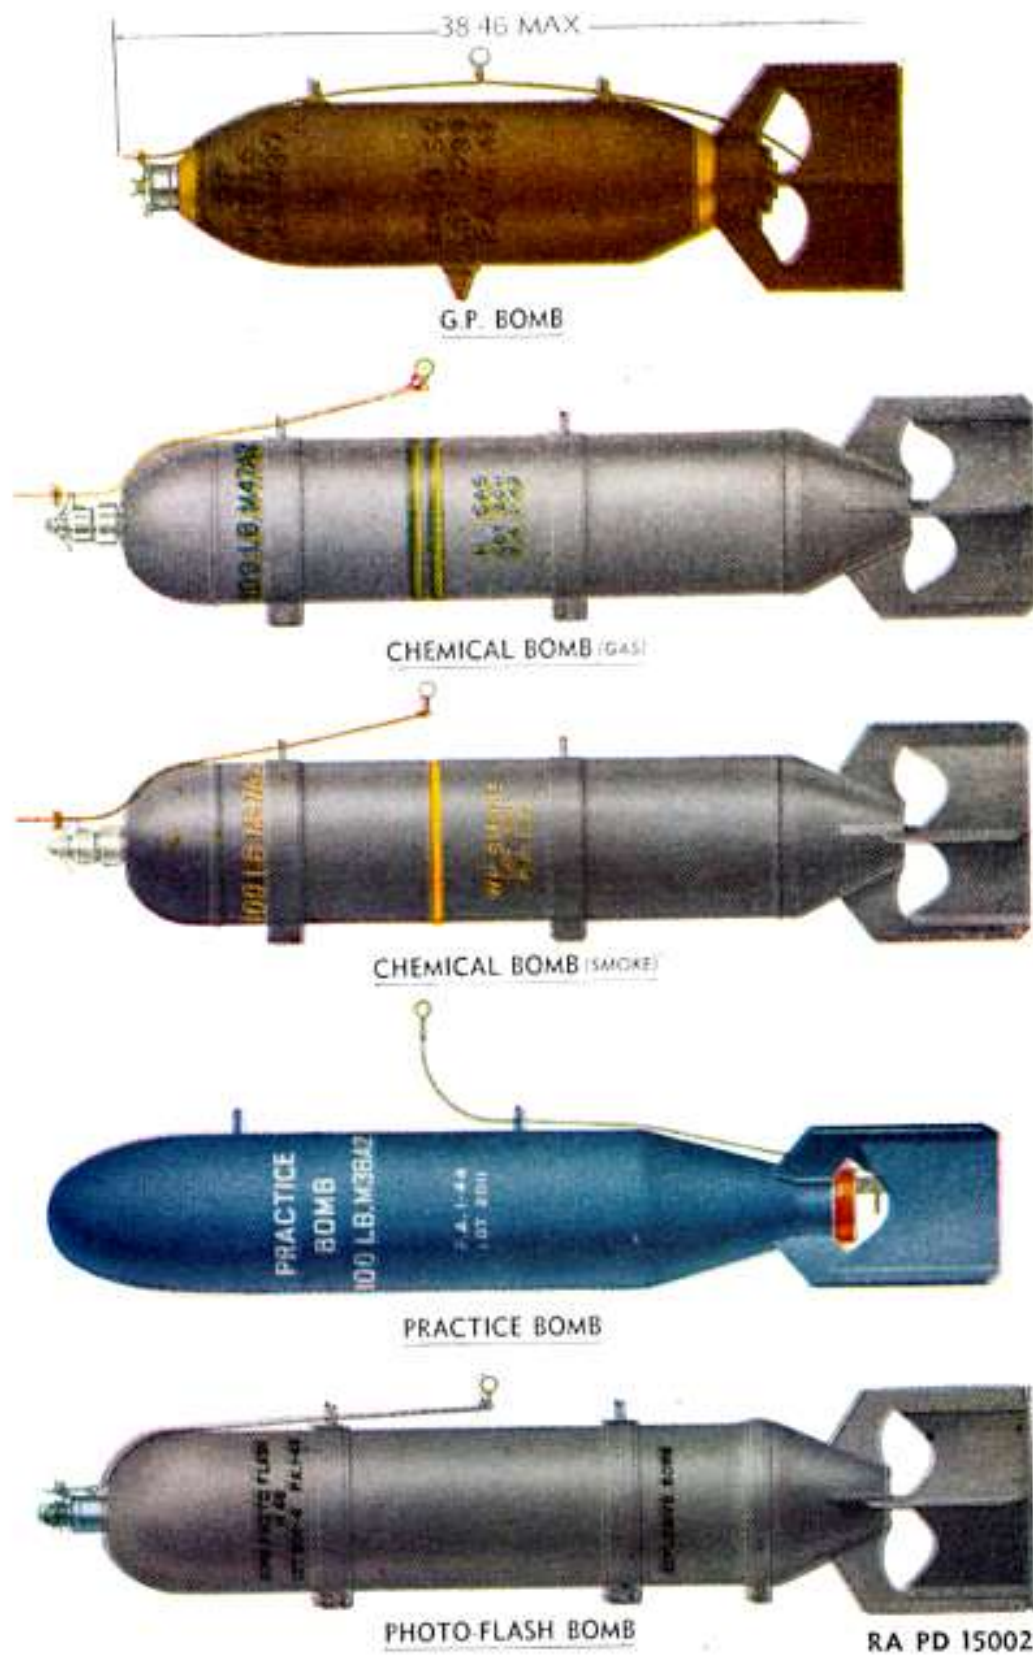

Figure 33. Painting and marking of bombs.
16. PAINTING AND MARKING. *a. Painting.* Ammunition is painted to prevent rust and to furnish, by the colors a ready means of identification as to type. In addition, bombs stored in the open are painted to prevent their ready detection from the air. High explosive incendiary, and drill bombs are painted lusterless olive-drab with bands to indicate the type. The colors used for these bands are, yellow for high explosive, black for drill, and purple for incendiary bombs. Fragmentation type bombs are painted on the head and base instead of with colored bands. Chemical and photoflash bombs are painted gray. (See fig. 33.)
b. Marking. (1) Bombs are marked with the following information: Type, weight, model, filler, and lot number. High explosive and drill bombs are marked in black. Chemical bombs are marked in color as follows: Persistent gas marked in green, with two green bands; nonpersistent gas, marked in green with one green band; irritant gas, marked in red with one red band; smoke, marked in yellow, with one yellow band. Incendiary bombs are marked in purple, with one purple band on olive-drab body. Bomb bodies intended to be stored before loading are marked longitudinally with the word **EMPTY** in four equally spaced locations. When the bomb is filled, the word empty is painted over with the color of the bomb body.
g. Chemical bombs. Gas and smoke bombs (fig. 33) have a light metal case which acts only as a container for the chemical agent up to the time the bomb strikes the ground. These bombs are equipped with superquick fuzes because any penetration of the bomb would carry the chemical agent under ground, thus wasting the charge. The bomb case is opened and the charge scattered by a burster which is an explosive element resembling the booster and auxiliary booster of explosive bombs. Some bursters are long tubes of explosive which are located along the axis of the bomb. Incendiary bombs are of two types; one has a case similar to the gas and smoke bombs and is loaded with a charge of inflammable material such as oil; the other type has a heavy magnesium alloy case containing an igniting charge and the case itself acts as the main charge of the bomb.
h. Photoflash bombs. This type (fig. 33) is a pyrotechnic item but is classed with bombs because of its explosive effect. It is a light case bomb with a charge of flashlight powder instead of high explosive.